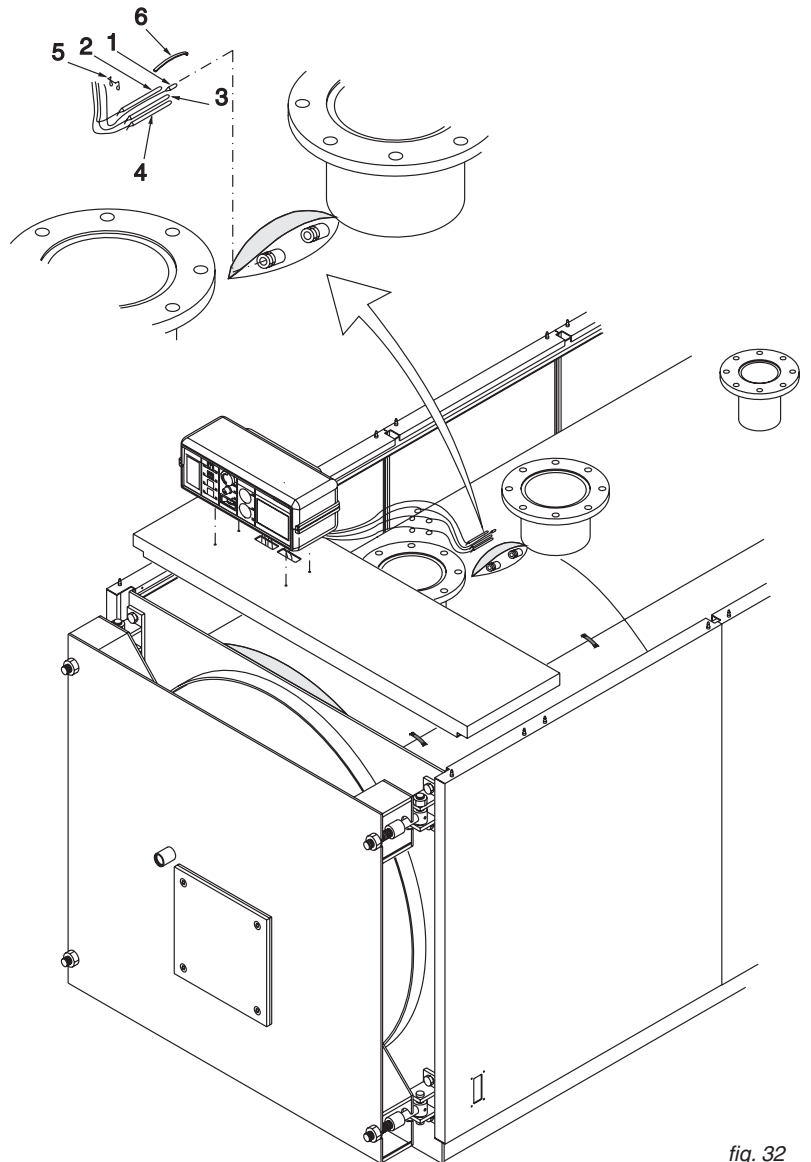

fig. 32
Following this sequence, insert the probes of the instruments in the bulb holder/s on the top of the boiler (Ref. fig. 32): of the thermometer (pos. 1), of the working thermostat (pos. 2), of the safety thermostat (pos. 3), of the minimum thermostat (pos. 4.) It is recommended to insert the probes all the way in the relative bulb holders for best contact. Then insert the contact spring (pos. 6) and fasten the capillaries with the spring/s (pos. 5).